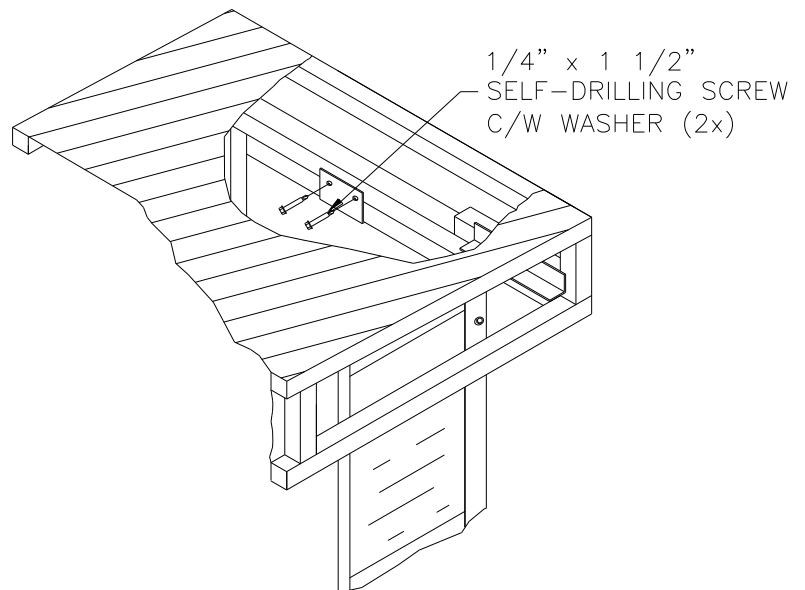

FIG. 9B
- c. **Attach Head Frame to Vertical Frames** (Figure 9b).